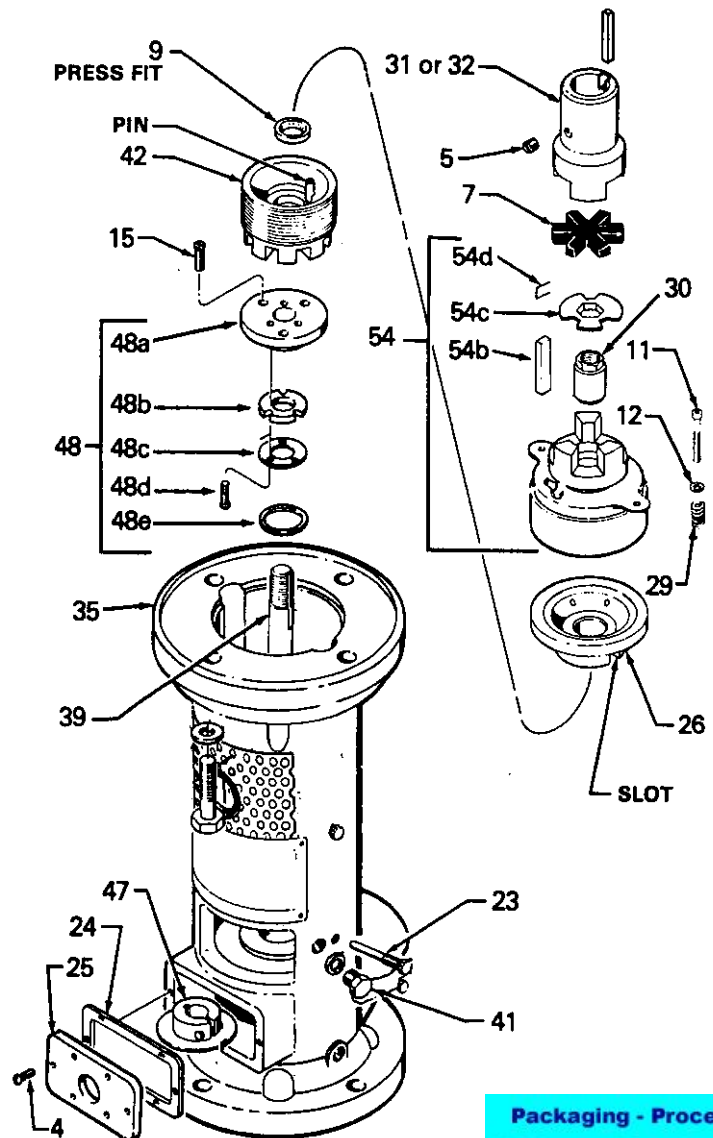
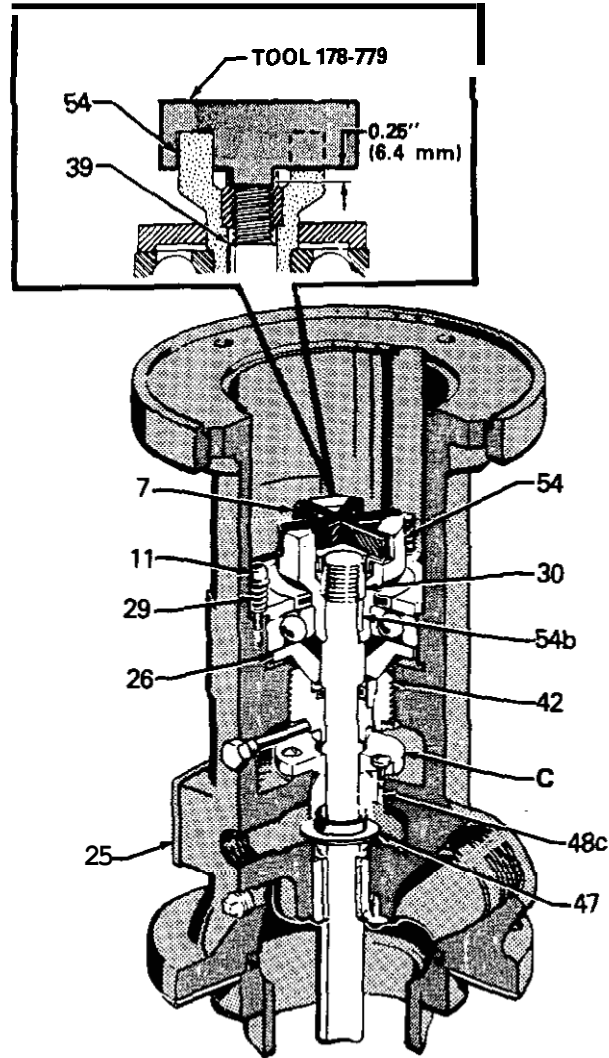
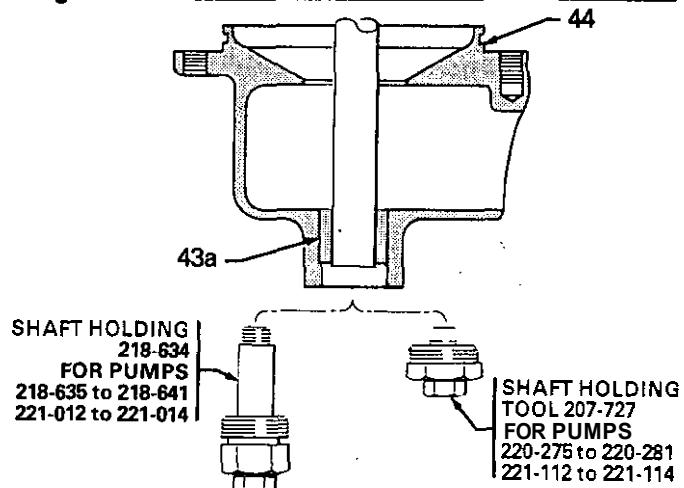

Fig 4
Fig 5
Fig 12
- a. It is not necessary to remove the pump from the stand to do this procedure. However, if you are also repairing the lower pump, **you** can install the shaft holding tool and move the pump to the repair stand at this time. Refer to Fig 12, page 10.
- b. Replace the pump thrust bearing (54) assembly at least once a year. Replace the assembly if the pump housing temperature goes over 150°F (53°C), which is the first sign of bearing failure.
Disassembly (Refer to Fig 4, except where indicated)
9. If the pump is mounted in a repair stand, install the shaft locating tool. See Fig 12, page 10.
10. Assemble the shaft seal (48) with the three screws (15).
11. Replace the shaft seal (9) in the adjusting nut (42). Install the adjusting nut, engaging just one thread in the pump base (35). See Fig 4.
12. Position the bearing support (26) on the adjusting nut (42) so the adjusting nut pin and the slot in the support align.
13. Screw the adjusting nut (42) down just until the bearing support (26) bottoms on the housing. Then turn the nut back 1 to 1-1/2 turns to re-engage the bearing support.
14. Slide the coupling assembly (54) over the shaft (39).
15. Align the keyway and insert the key (54b) between the coupling assembly and shaft.
16. Use the special tool, 178-779, to check the shaft location dimension. See Fig 5, page 8. Place the tool on the face of the coupler, between the coupler tabs as shown in the detail of Fig 5. The tabbed portion of the tool should touch the top of the shaft (39). Screw the adjusting nut (42) up until you attain the 0.25 in. (6.8 mm) dimension.
17. Install the shaft nut (30) using a socket wrench and bonom it on the coupling assembly (54).
18. Align the hex of the nut retainer plate (54c) with the shaft nut (30) and secure the lockwire (54d).
8. Slide the shaft (39) into the bearing in the intake bowl and lock it in place with the shaft holding tool. See Fig 12.
10. Assemble the first impeller (33), collet (22) and nut (38) onto the shaft. Push downward on the impeller and hold it with the spanner wrench, 953-913, while tightening the impeller nut to 120-140 ft-lb (165-190 N·m).
11. Install the first impeller bowl (43) and bolt it to the intake bowl (44) with screws (72) and lockwashers (19).